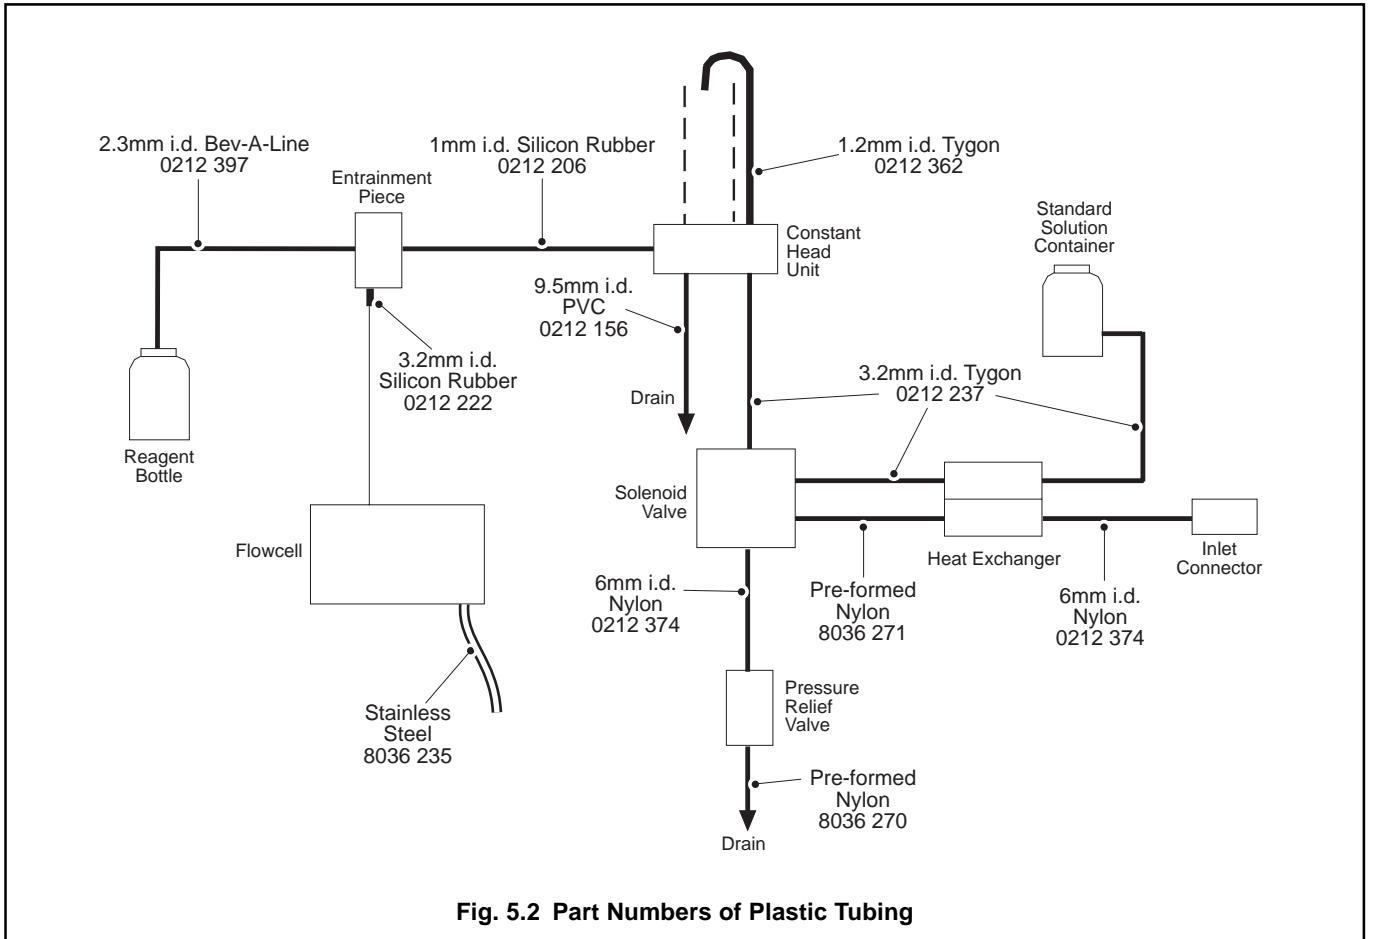

Fig. 5.2 Part Numbers of Plastic Tubing
5.4.3 Replacement of Plastic Tubing (Fig. 5.2)